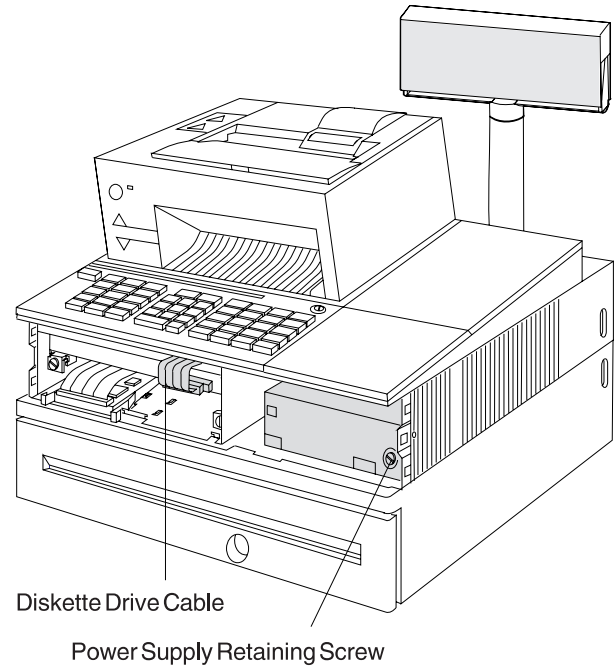

Figure 1-7. Power Supply Remove and Replace
- 6 Disconnect the diskette drive cable, if present, from the connector at the front of the logic tray. See Figure 1-7.